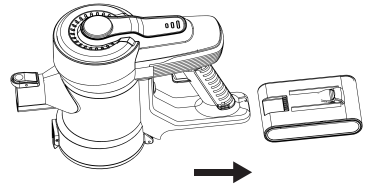

Fig.1
- The battery can be recharged either attached to the Main Unit or detached from it. To detach the battery from the Main Unit, press the battery release button and remove it. (Fig.1)